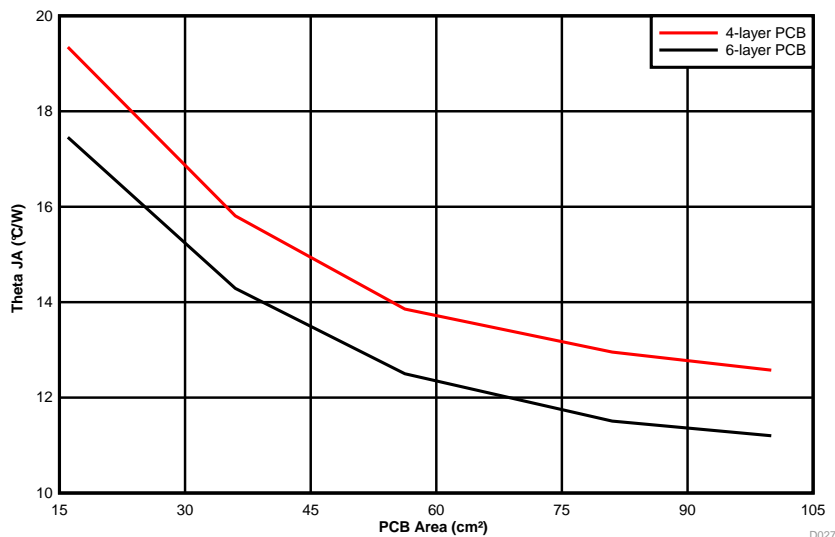

Figure 52.  $\theta_{JA}$  vs PCB Area
The amount of PCB copper effects the thermal performance of the device. Figure 52 shows the effects of copper area on the junction-to-ambient thermal resistance ( $R_{\theta JA}$ ) of the LMZM33604. The junction-to-ambient thermal resistance is plotted for a 4-layer PCB and a 6-layer PCB with PCB area from 16 cm2 to 100 cm2.
3. Reference Figure 52 to determine the minimum required PCB area for the application conditions.